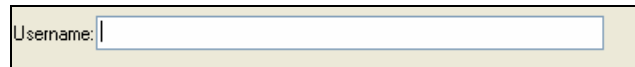

Figure 1.5.2
1. Click on the **Username** box and type in your login name (Figure 1.5.2).